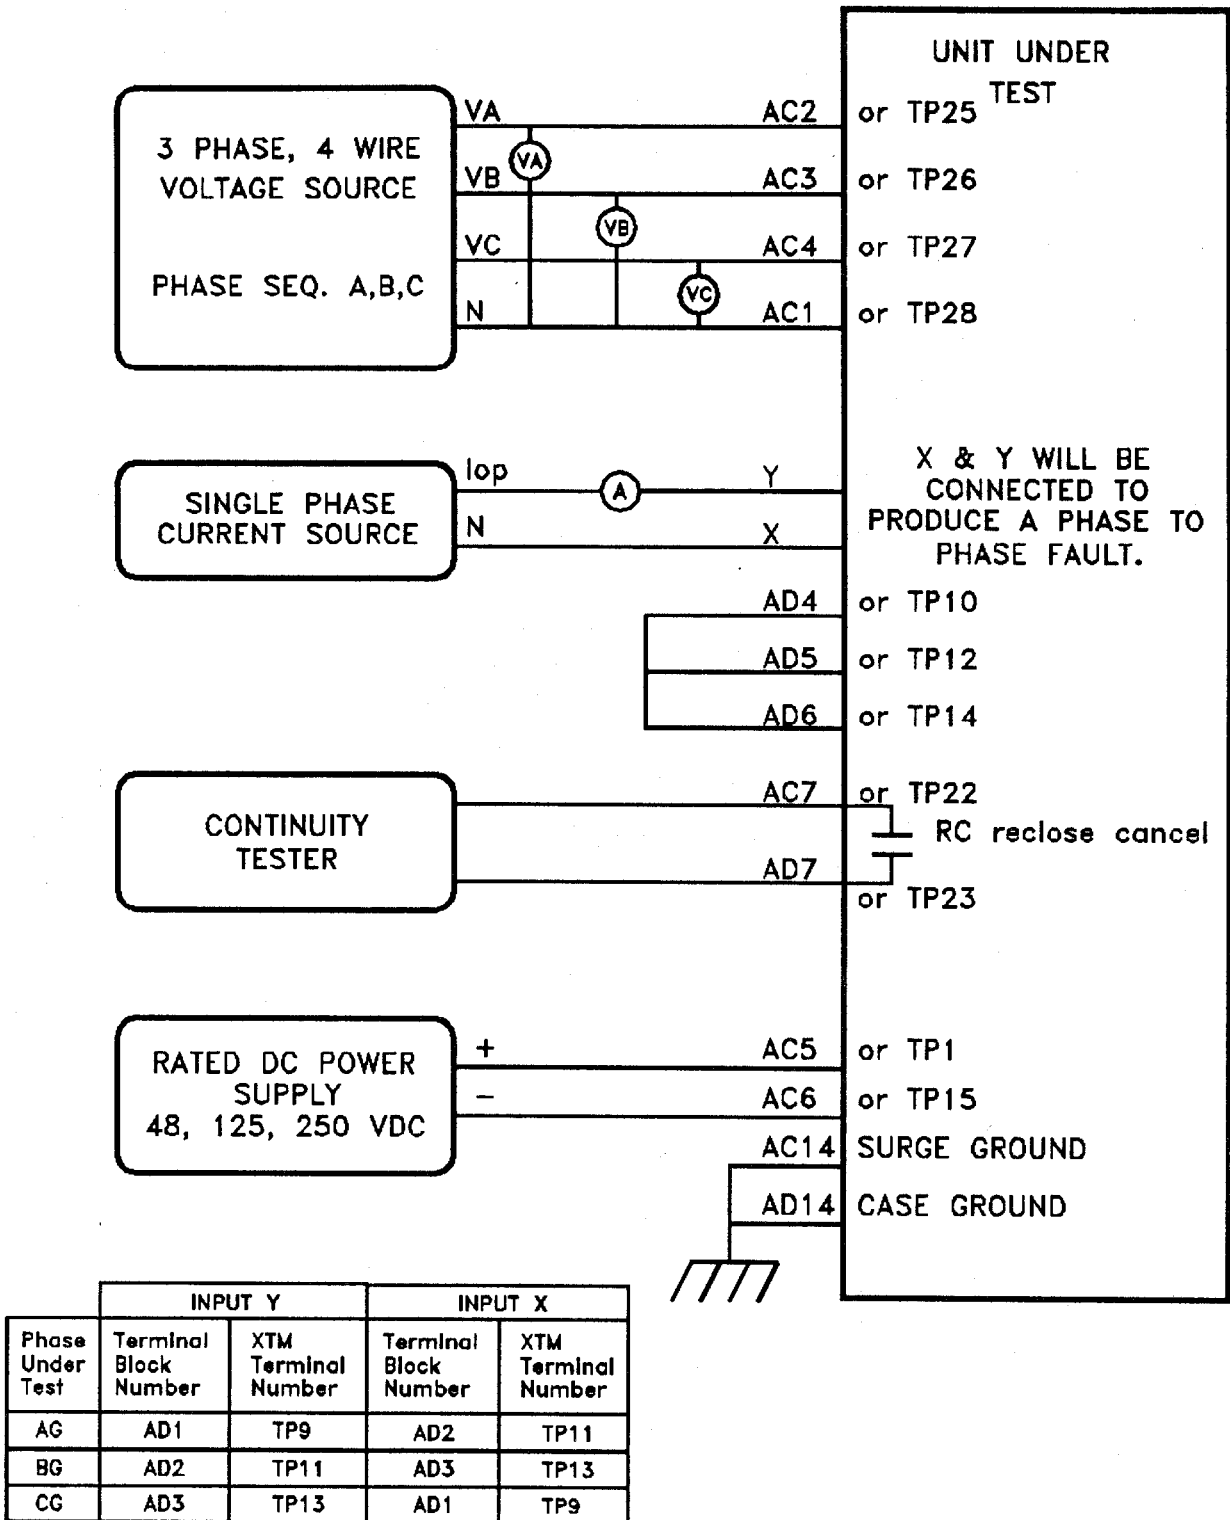

Figure AT-2 (0286A4825 Sh.5 [1]) Phase-to-Phase Test Connections
1. Connect the relay as shown in Figure AT-2, for phases AB.